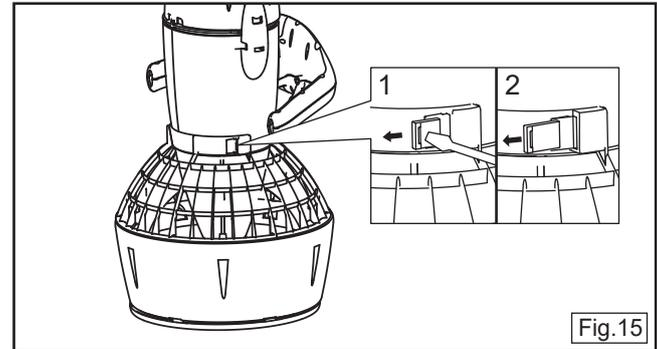

Fig.15
3. Insert a screw driver as shown in figure 15 (page 25) to remove the two grille pins.